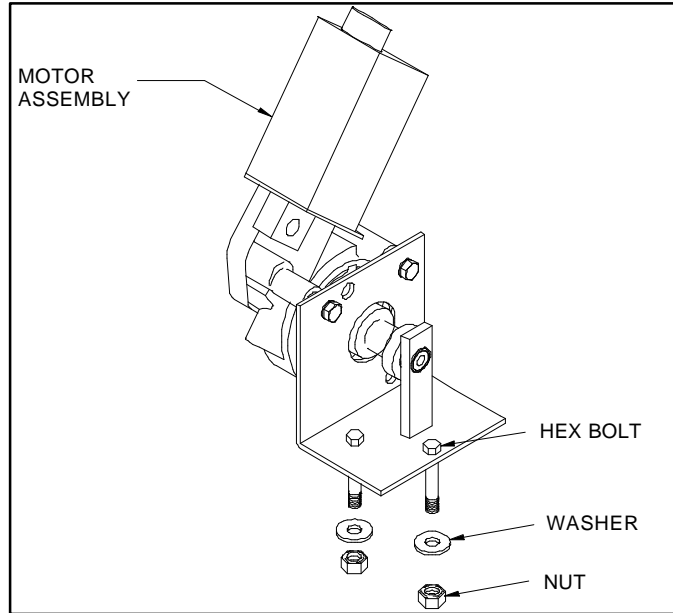

FIGURE 2-4: VEHICLE FLOOR MOUNTING
5. Refer to **Figure 2-4**. Fasten the Power Parking Brake. Use the three hex bolts, washers, and hex nuts supplied. Be certain the bolts do not extend past the nuts into the wheel well. Remove the ends